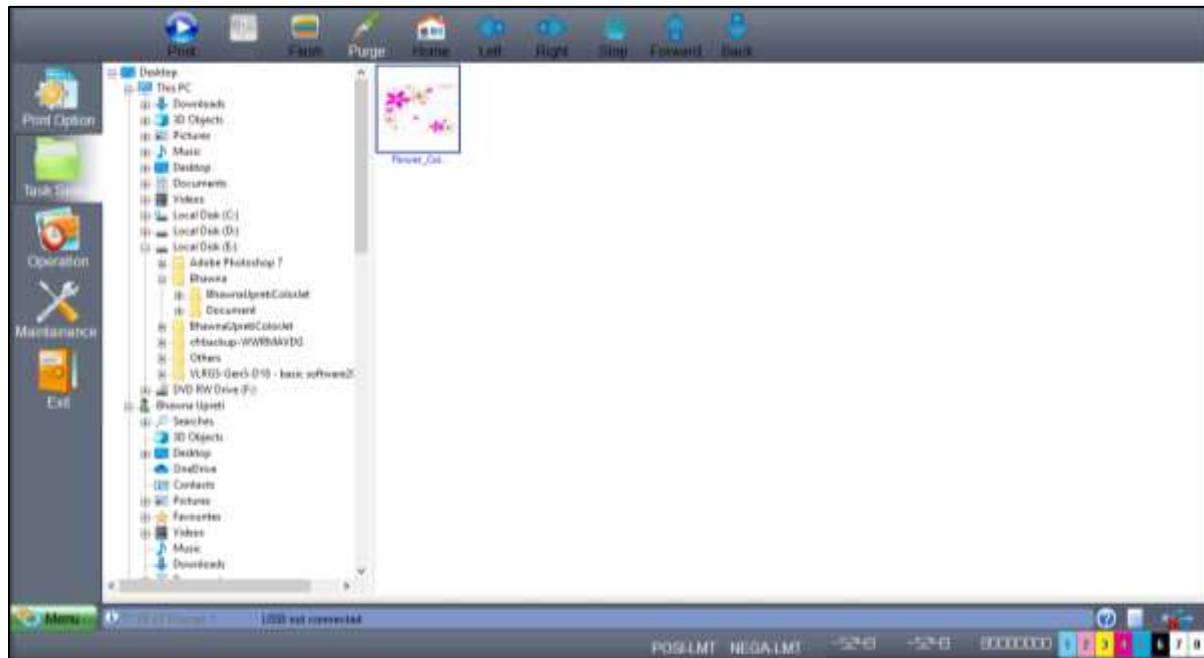

Fig 18: Displaying the Task Select Screen
**Step 1:** After opening the **Task Select** screen, navigate to the location where the printable file is stored (Refer to Fig. 18).